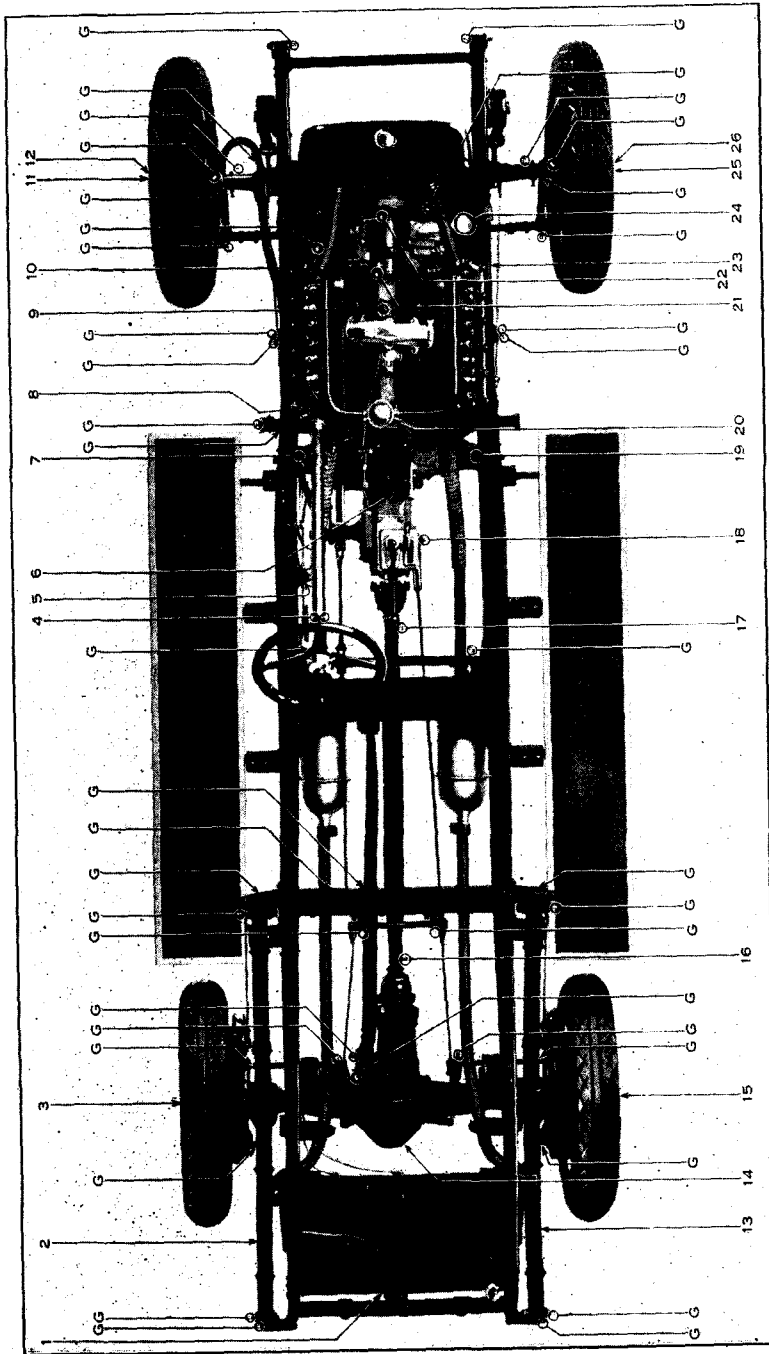

FIGURE 11. Chassis lubrication diagram
The schedule in Fig. 9 is in outline form. Detailed information as to the location of the points to which lubricant is to be applied, the method of lubricating, and the kind and amount of lubricant will be found in Chapters VI and VII. For each point on the schedule, two reference numbers are given: the number of the page on which detailed directions will be found and the number designating the point on the chassis lubrication diagram (Fig. 11).
Spring bolts, steering connections, brake rocker shafts and other points are provided with connections to fit the grease gun supplied with the tool equipment. These points are indicated by "G" in Fig. 11. Cadillac Roller Bearing and Cup Grease should be applied to these points with the grease gun every 500 miles.
*The numbers following the headings in this chapter and in Chapter III refer to Fig. 11.